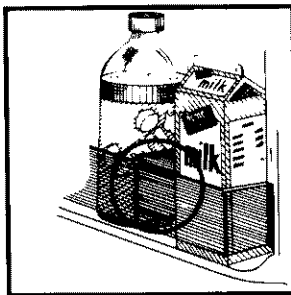

FIGURE 85
**Huggers.** Some models feature two handy shelf huggers that slide back and forth along door shelves. See Figure 85.